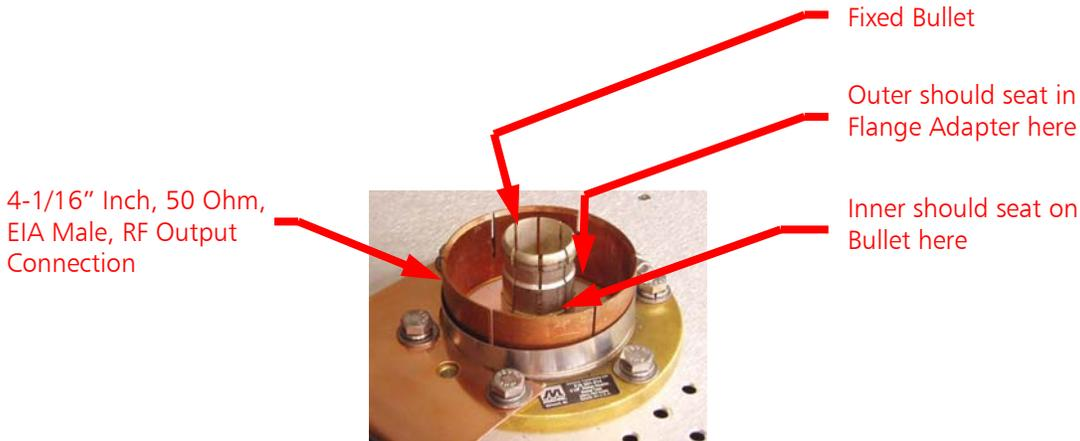

Figure 26 – 4-1/16 Inch, 50 Ohm, RF Output Connector (Left Rear of the Main Cabinet Top)
The 4MX 100 transmitter RF output connection is 4-1/16 inch, 50 Ohm, EIA, Male, and is located in the top of the cabinet. This connection is a Clamp Type Flange Adapter with a fixed bullet as shown in **Figure 26**.
- Step 2** – Install the transmission line ensuring that the inner conductor goes over the bullet. Also, ensure that the inner and outer are seated as noted in **Figure 26**.